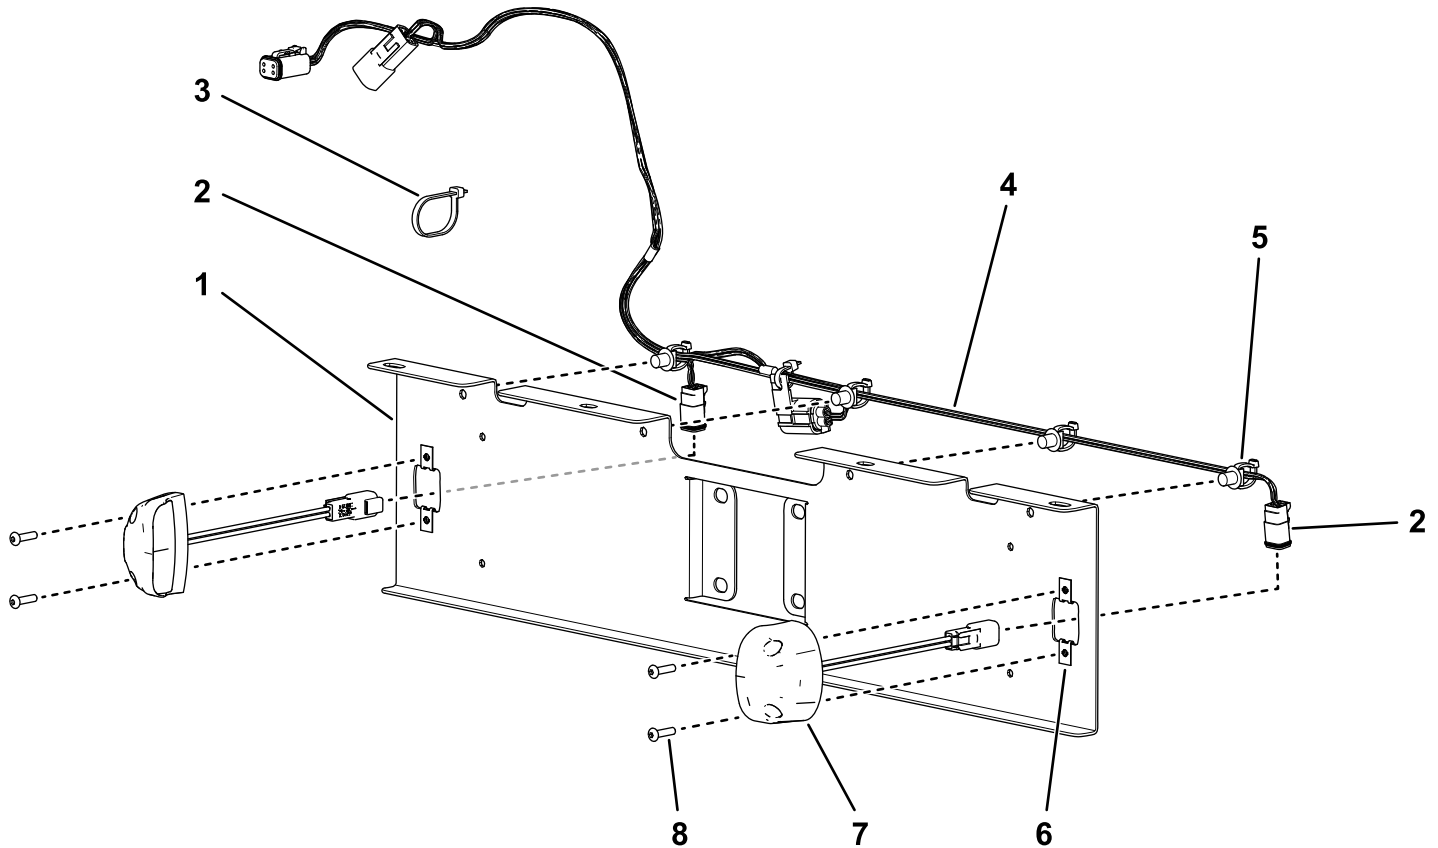

Figure 1
1. Route the license plate wire harness along the top of the license plate bracket, keeping the 2 large connectors and the fuse to the left side (Figure 1).
2. Secure the wire harness to the bracket by pushing the 4 push-in fasteners on the harness into the corresponding holes in the bracket (Figure 1).
3. Route the license plate light connectors through the large holes on either end of the bracket and connect them to the 2 license plate lights (Figure 1).
4. Install the lights to the bracket using 4 hex-socket head bolts (#10 x 1 inch) and 4 clip nuts as shown in Figure 1.